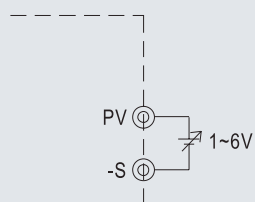

Fig. 3.1 Add on 1~6V external voltage
- (1) Connecting an external DC source between PV and -S on CN1 or CN2 that is shown in Fig. 3.1